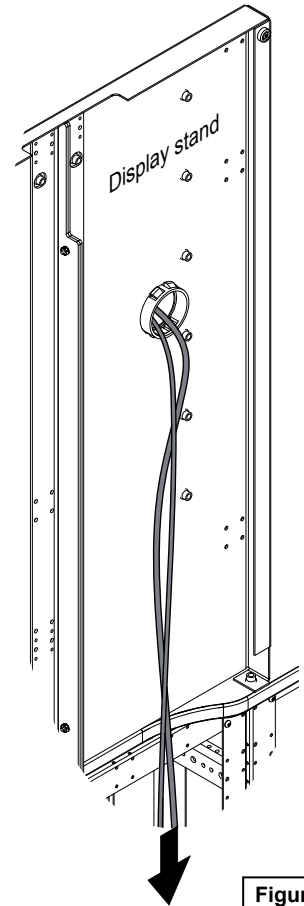

Figure 5
1. Route monitor wires through the grommets and down into the credenza. **Figure 5.**
2. Secure the stand to the worksurface with (2) 1/4-20 x 30mm JC bolts.